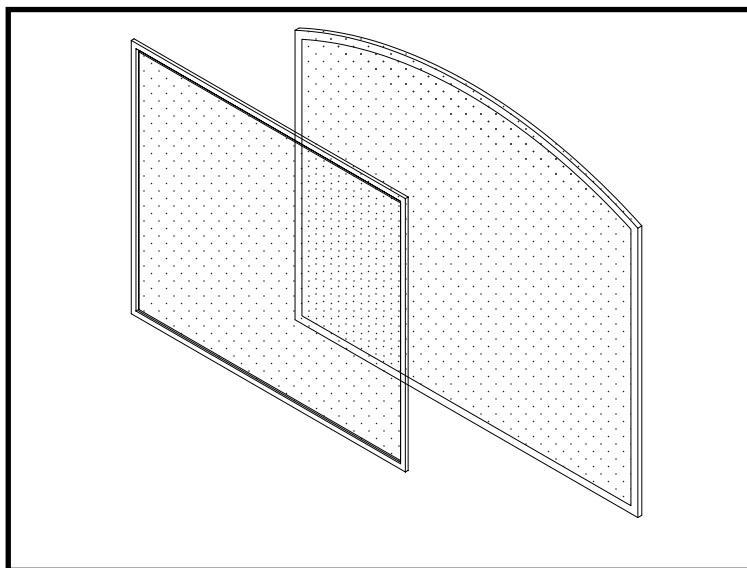

Figure 69: TC36 & TC36 Arch safety barrier screen.
6. Attach the magnetic safety barrier screen (Figure 69) to the outer-most door frame